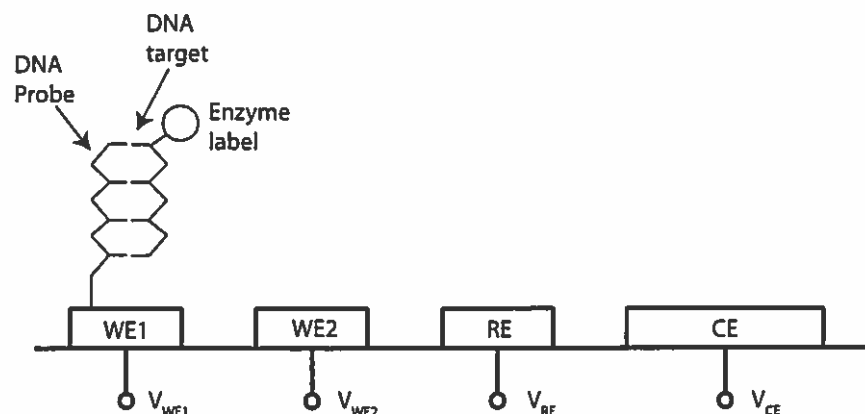

Figure 3.2
c) Figure 3.2 shows an amperometric sensor used for the detection of DNA hybridization. The sensor works on the principle of a redox reaction confirming hybridization on WE1 at a cell potential of  $V_{cell}=100mV$ . An additional electrode, WE2 is added for sensor drift compensation. It is desirable that the output of any instrumentation system uses the difference between the hybridization reaction and drift to confirm a reaction.